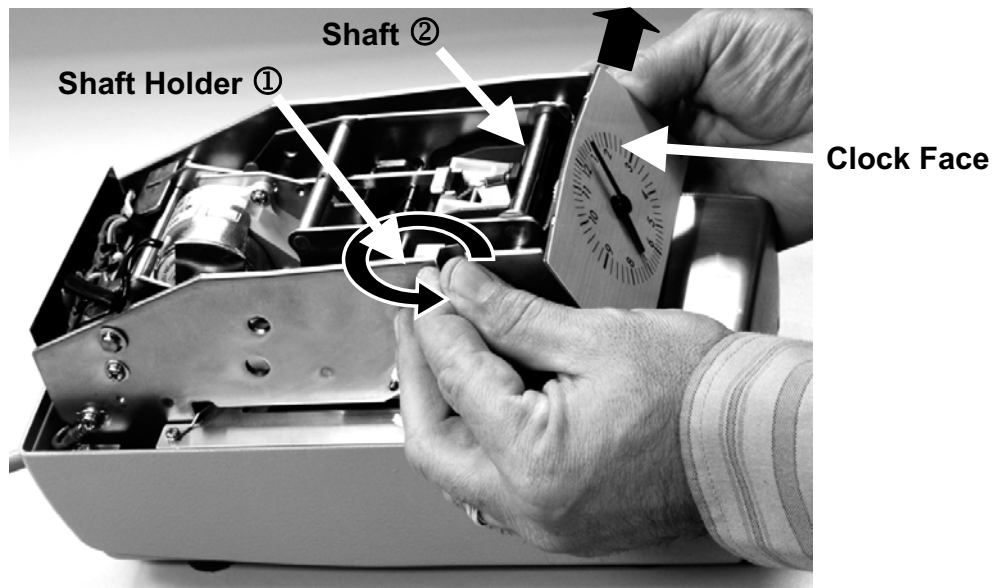
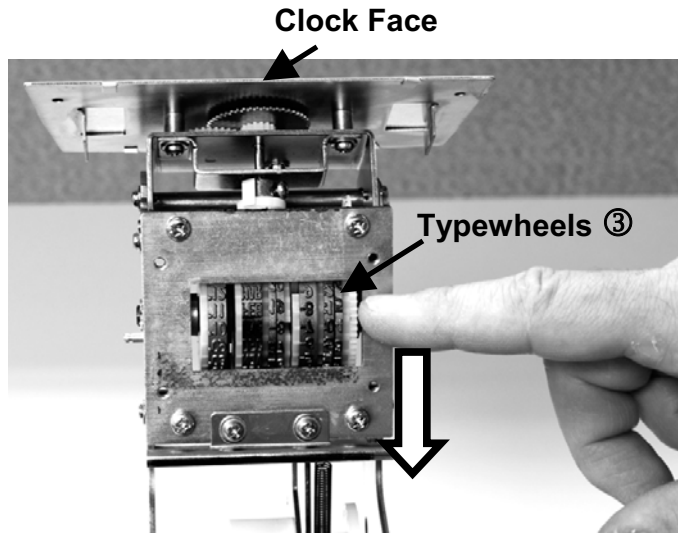
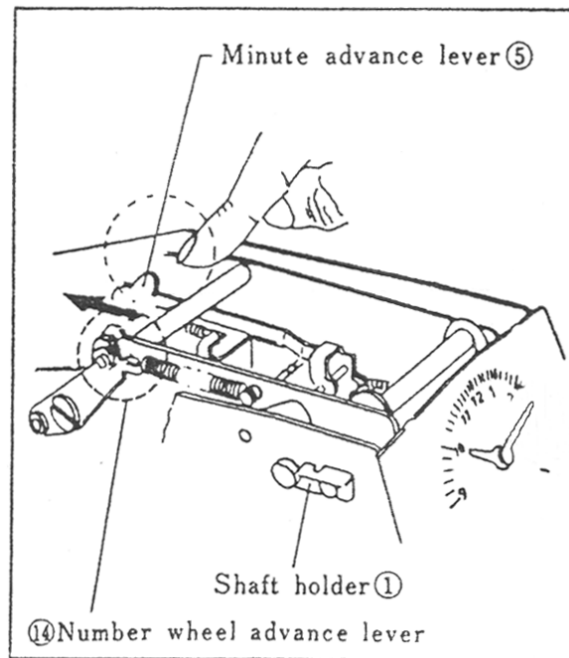

Figure 2.
Figure 3.
Figure 5.
(Refer to Fig. 2, 3, & 5)
- Remove the case, and turn the **shaft holder** [1] in the arrow direction indicated in Figure 2 to detach it from the **shaft** [2].
- Next pull out the **shaft** [2] in the arrow direction indicated in Figure 2, and set up the typewheel and clock sections as shown in Figure 3.
- Keeping the electrical cord to A.C. main, push the **minute advance lever** [5] as shown in Figure 5, in the arrow direction, then turn the **typewheels** [3] for year, month, date, hour and minute in the direction of the arrow shown in Figure 3 and set one minute before the desired time.
- To set the desired number, operate the **number wheel advance lever** [14] as illustrated in Figure 5.
- To advance the typewheel and clock at the same time, push the **minute advance lever** [5] (see Figure 5) in the arrow direction, so the typewheel and clock hand advance one minute at the same time.